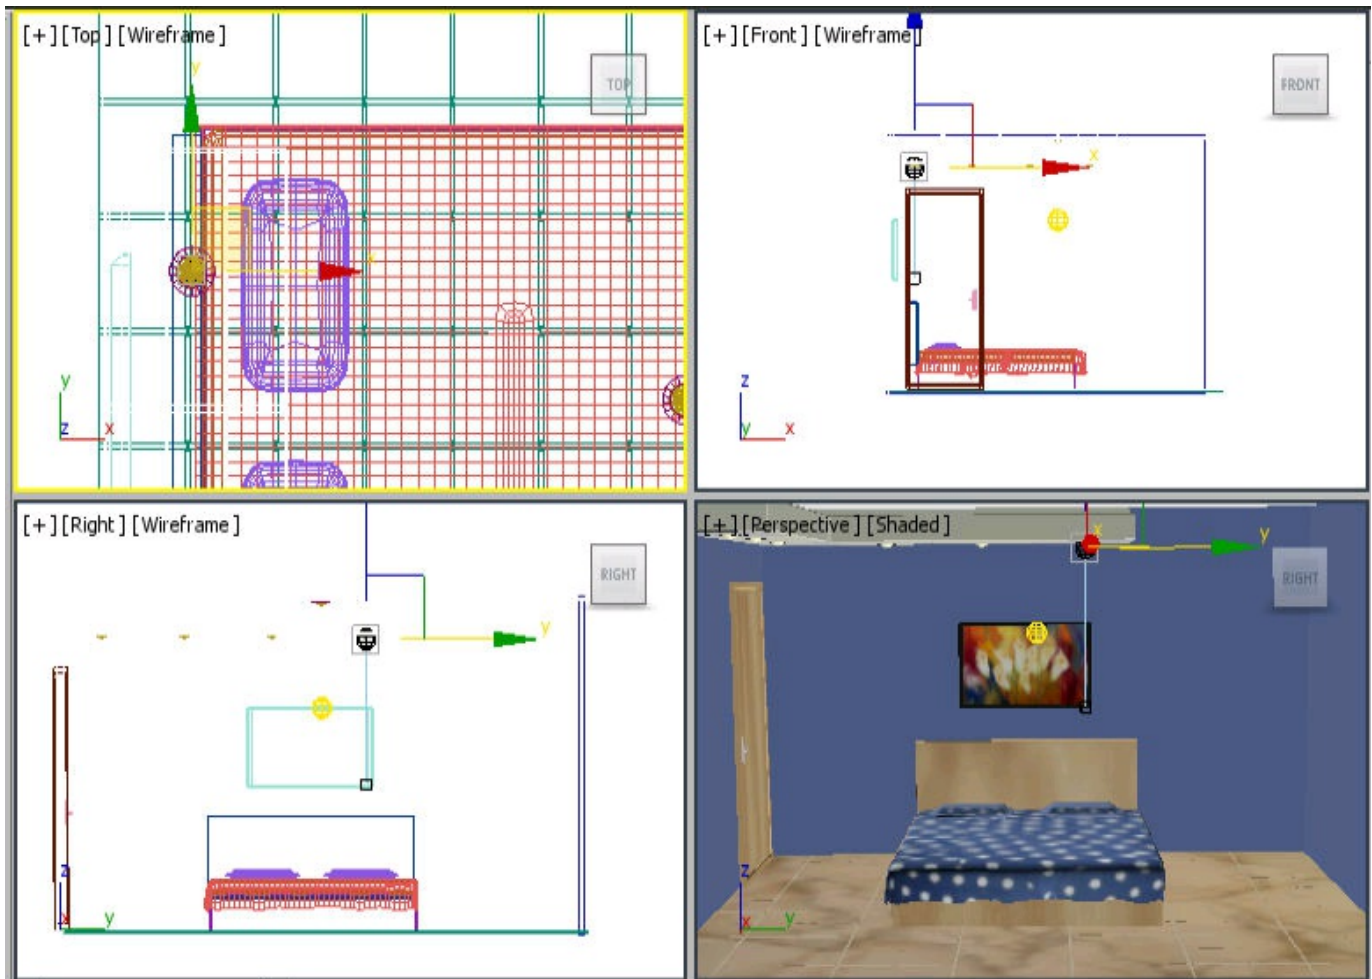

Figure 13-74 The spot light1 and spot light1.Target aligned in the viewports
2. Click at a point and drag the cursor downward. Next, release the left mouse button; a target light is created. In the **Name and Color** rollout, enter **spot light1**. Next, choose the **Select and Move** tool and then select *spot light1* and *spot light1.Target*. Now, align them in the viewports, as shown in Figure 13-74.